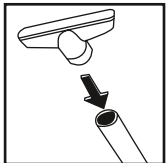

Fig. 5
5. Insert the coupling end of the hose in the vacuum cleaner port in the front of the tank and secure in place. Press the accessory hose or extension. (Fig. 5)